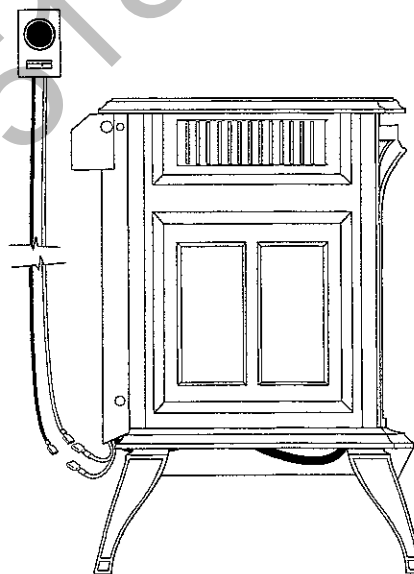

Fig. 27. Attach leads for an optional thermostat to the connectors at the lower left rear corner of the stove.
2. The two leads with 1/4" female connectors extend from the wire harness, accessible from under the left rear side of the stove. Either thermostat wire may be connected to either terminal. Fig. 27